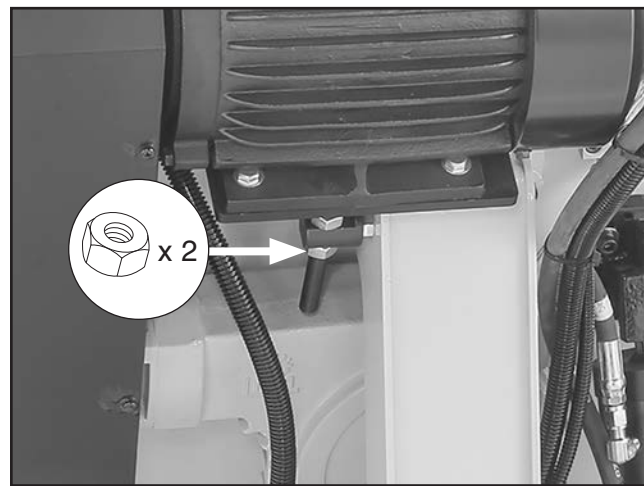
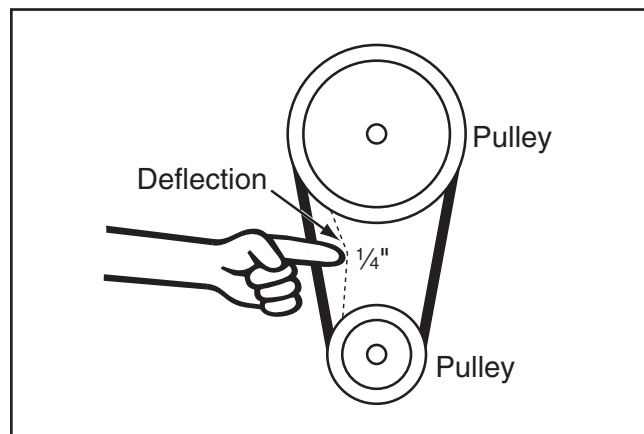

Figure 103. Location of belt tension hex nuts.
Figure 104. Checking belt deflection.
4. Adjust hex nuts shown in **Figure 103** until there is approximately $\frac{1}{4}$ " deflection when V-belt is pushed with moderate pressure, as shown in **Figure 104**.